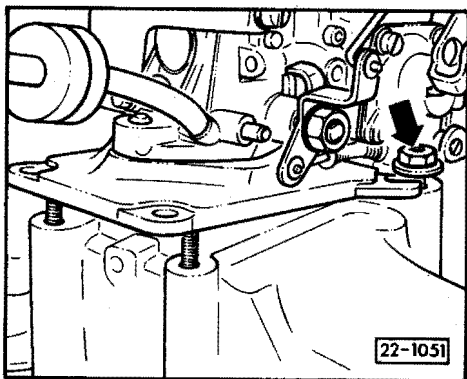

Fig. 1 Removing and installing 34 PICT carburetor
- o Removing and installing → Fig. 1